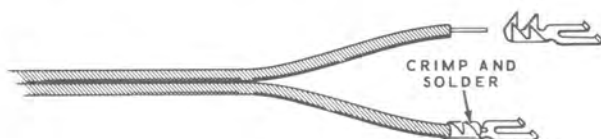

Figure 3
- () Speaker connections should be made using good insulated wires such as lamp cord. Install the spade lugs supplied with this kit on the ends of the speaker wires, as shown in Figure 3.